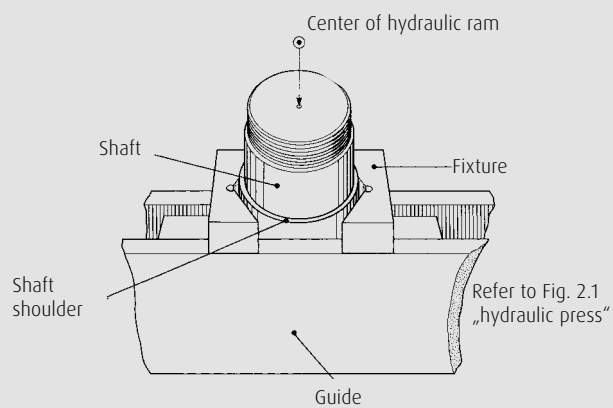
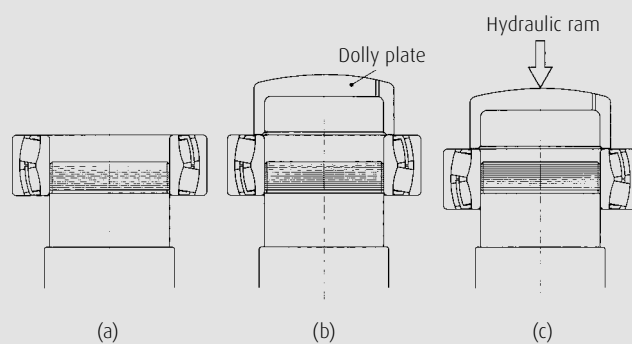

Fig. 6.2 Press method (fixing of shaft on table of press)
Fig. 6.3 Push-in of bearing with press
6.2.2 Press Method (Fig. 6.2 and Fig. 6.3)
1. Set upright the shaft and place its lower end on the table of a hydraulic press so that the shaft center mates with that of the ram of hydraulic press. Adjust the height of the guide of hydraulic press and fix the shaft at the lower part of its shoulder. **(Fig. 6.2)**
5. Insert the bearing so that the inner ring's chamfered part touches the dolly plate **(Fig. 6.3 (a))** as evenly as possible in the advancing direction. The aim is to create even contact between the flat face of the dolly plate and the inner ring end face on the shaft. **(Fig. 6.3 (b))**
6. Activate the hydraulic ram to push-in the bearing. Continue until the inner ring end face touches closely the shoulder of shaft. **(Fig. 6.3 (c))**